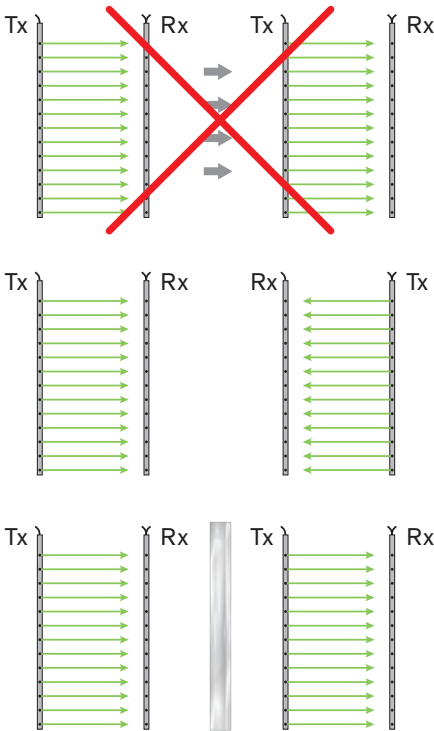

Figure 6: Alignment of multiple light curtains
- ▶ When using multiple light curtain systems near one another, no emitter beams can be emitted in the direction of another system's receiver. The light curtain systems could interact with one another. For elevators with door openings at both ends of the cabin, the emitter and receiver door edges of the two doorways should therefore be arranged alternately to one another (Figure 6).